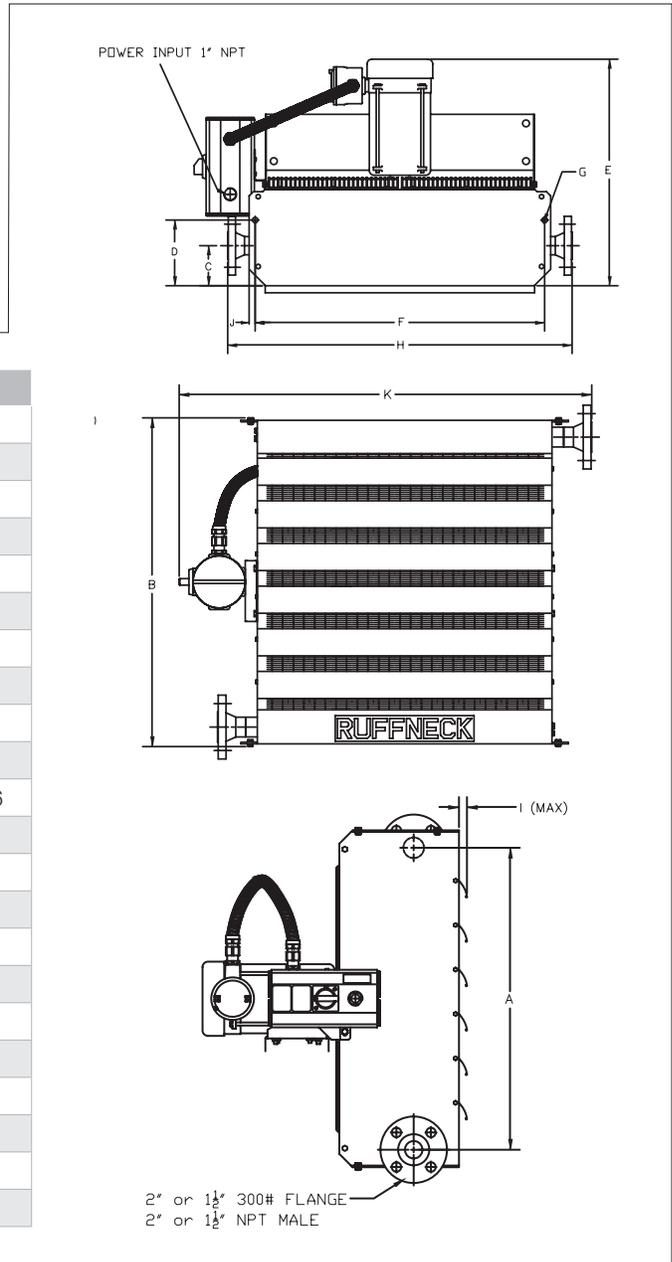
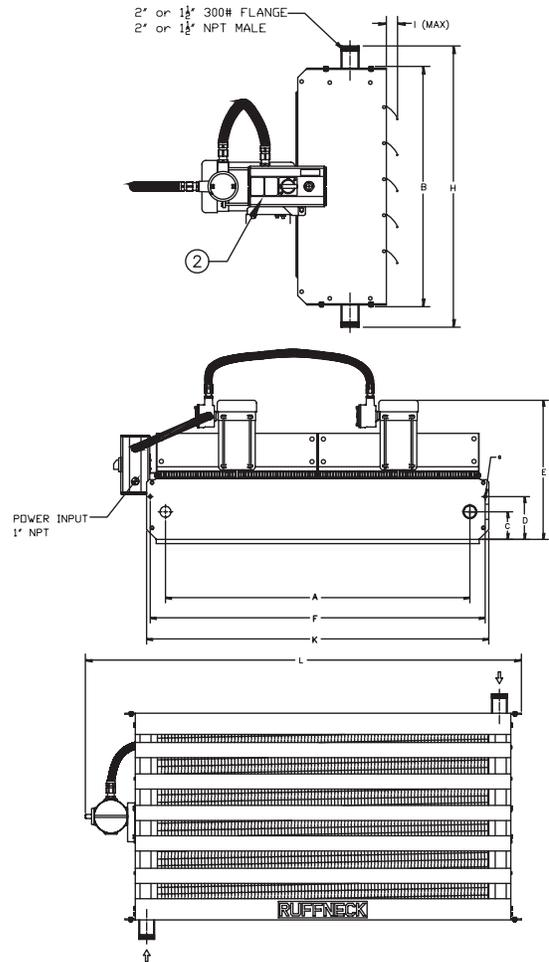

Figure 2
Figure 3
- 2.2 Heater cabinets are designed to be mounted from the top or bottom using 1/2" (14 mm) bolts. For heater dimensions, see Figure 2, page 5 for single fan or Figure 3, page 6 for 24" tandem.